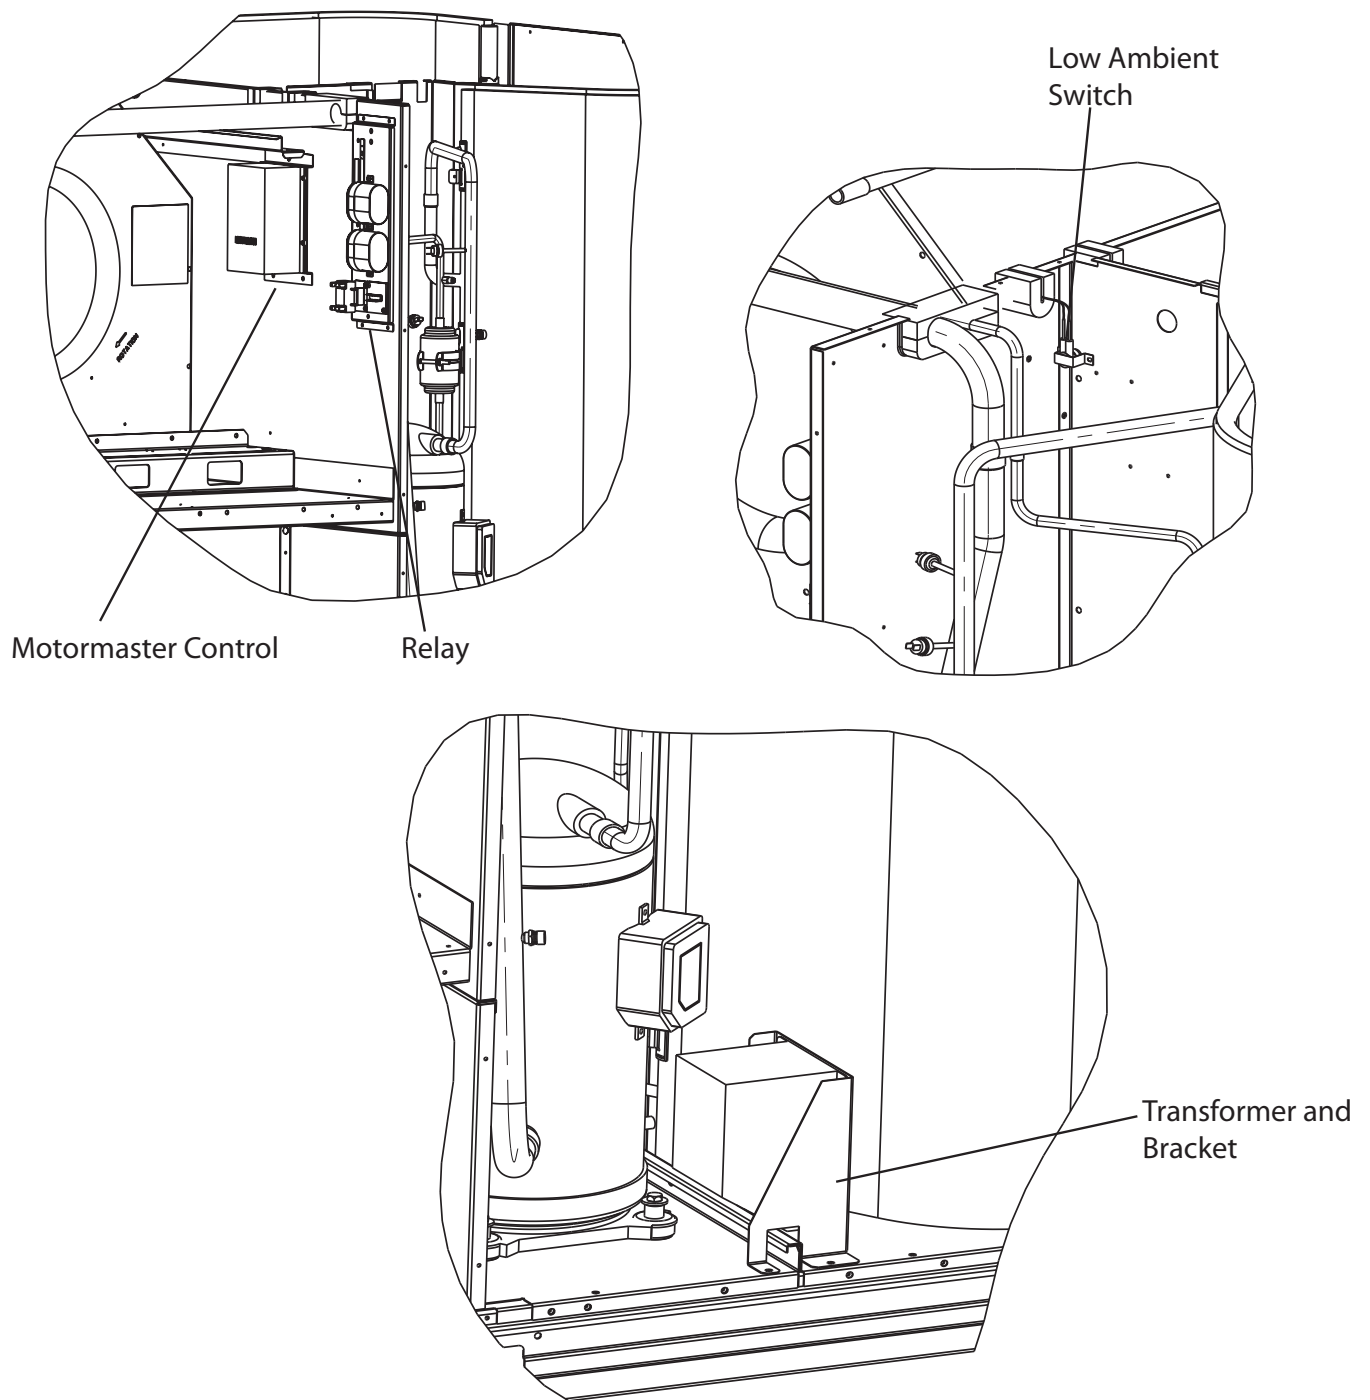

Fig. 4 - Motormaster I Controller Locations
5. Mount Motormaster I control on supplied bracket in the location shown in Fig. 4.
6. Mount relay to capacitor plate as shown in Fig. 4.
1. Locate low ambient switch LAS in compressor section of circuit A and allow wires through wiring grommet to hang in blower section. (See Fig. 4.)